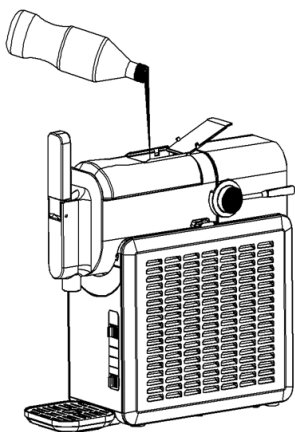
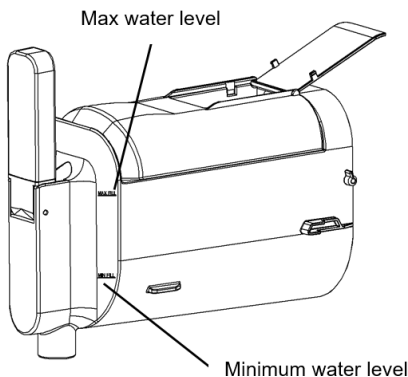

Figure 1
Figure 2
1. Check the charging barrel before pouring the material into the charging barrel to ensure that the charging barrel is installed in place (see the "cleaning" part for the disassembly and assembly steps, please install the discharge handle and water receiving tray before using it for the first time), open the top cover of the charging barrel, and then slowly pour the material into the charging barrel (as shown in Figure 1), and the liquid capacity should be between the Minimum and Max water levels (as shown in Figure 2).
1. In order to avoid increased mixing load and overflow after ingredients expansion, the ingredients should not exceed the maximum capacity water level. For accurate temperature control and normal operation, the ingredients needs to be added to the minimum capacity water level (see Figure 2).